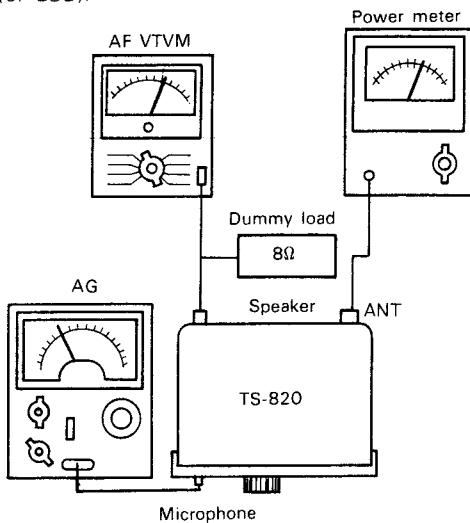

Fig. 38 Adjustment of monitor level
- 1) If **Fig. 38**, make adjustment until full power is obtained at 14.175 MHz, CW, and set the MODE switch to SSB_e (or LSB).